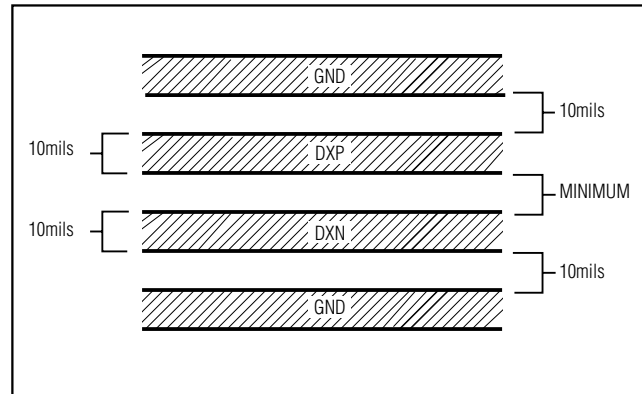

Figure 2. Recommended DXP-DXN PC Trace
- 3) Route the DXP and DXN traces in parallel and in close proximity to each other, away from any higher voltage traces, such as +12VDC. Leakage currents from PC board contamination must be dealt with carefully since a 20M $\Omega$  leakage path from DXP to ground causes about +1 $^{\circ}$ C error. If high-voltage traces are unavoidable, connect guard traces to GND on either side of the DXP-DXN traces (Figure 2).
- 6) Use wide traces. Narrow traces are more inductive and tend to pick up radiated noise. The 10mil widths and spacings that are recommended in Figure 2 are not absolutely necessary, as they offer only a minor